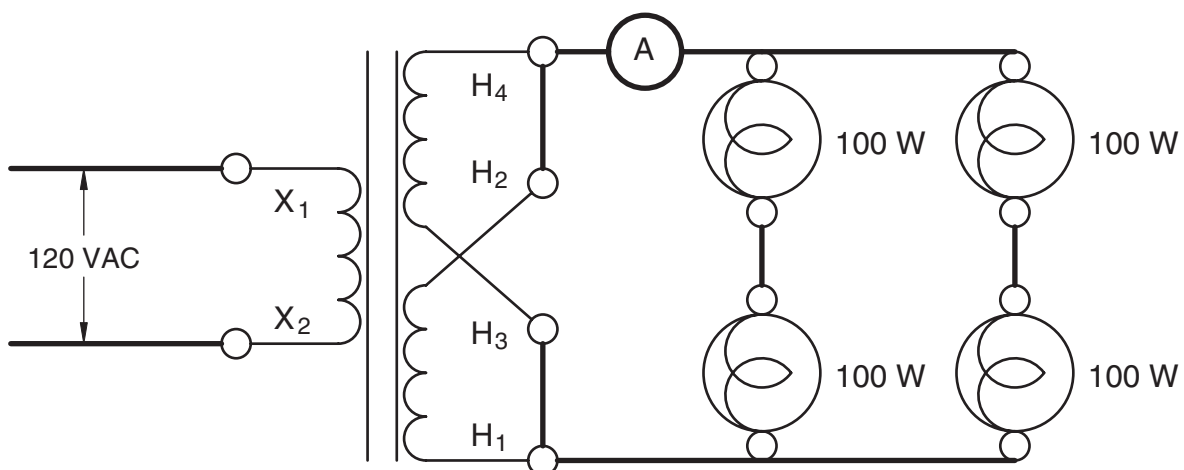

Figure 20-7 Adding load to the secondary.
32. Reconnect the AC ammeter in series with the secondary winding. Add two more 100 watt lamps that have been connected in series to the secondary circuit. These two lamps should be connected in parallel with the first two lamps, seen in Figure 20-7.